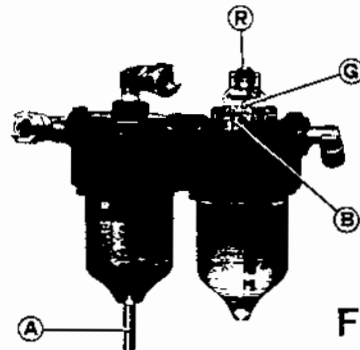

Fig. 7
- Drain water regularly from the filter/lubricator unit at (A) (in Fig. 7). Check the oil level in the lubricator regularly. When adding oil to the lubricator, disconnect the air supply first, remove the fill screw (B), and add oil as needed. Make sure seals are in place when replacing the cap.
- Periodically check the lubricator action. An oil drop in the bubble glass at (G) every 4 - 5 operations of the bead breaker indicates that the proper amount of oil is being dispersed in the system. If necessary, adjust the unit using screw (R) to correct the oil flow.